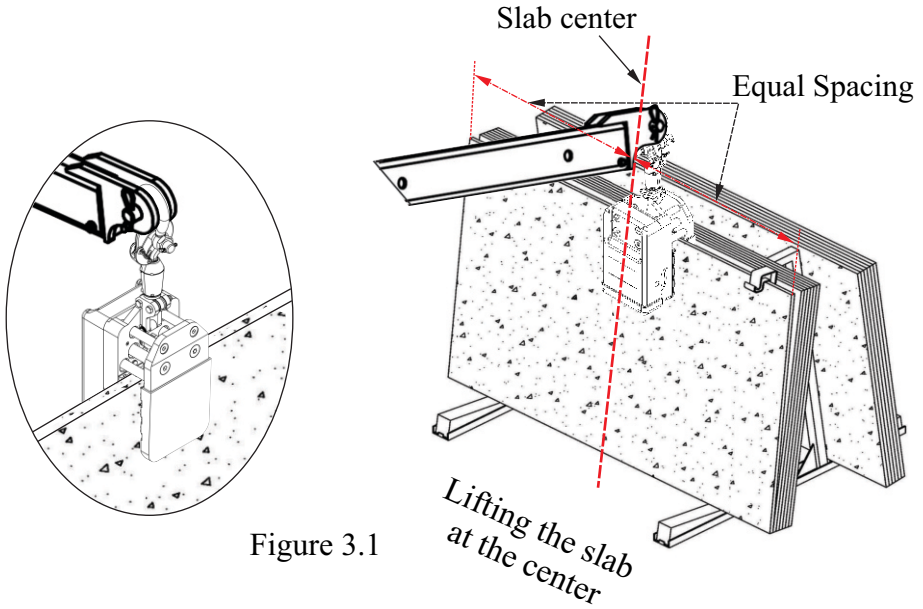

Figure 3.1
- Lowering the lifter to be perpendicular to the slab and place at the center of the slab (Figure 3.1)